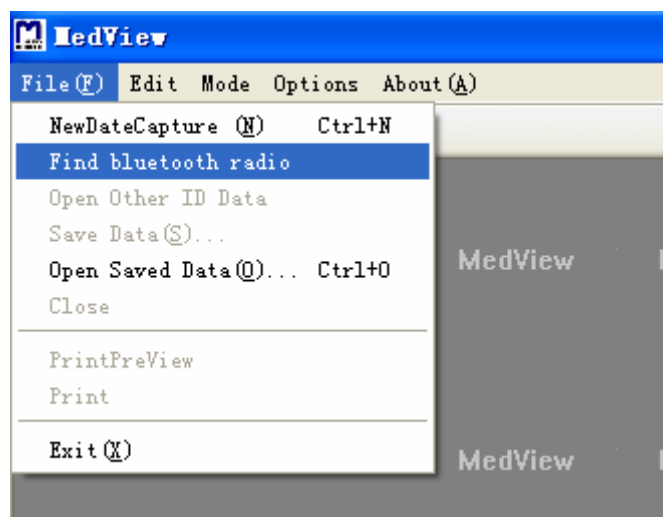
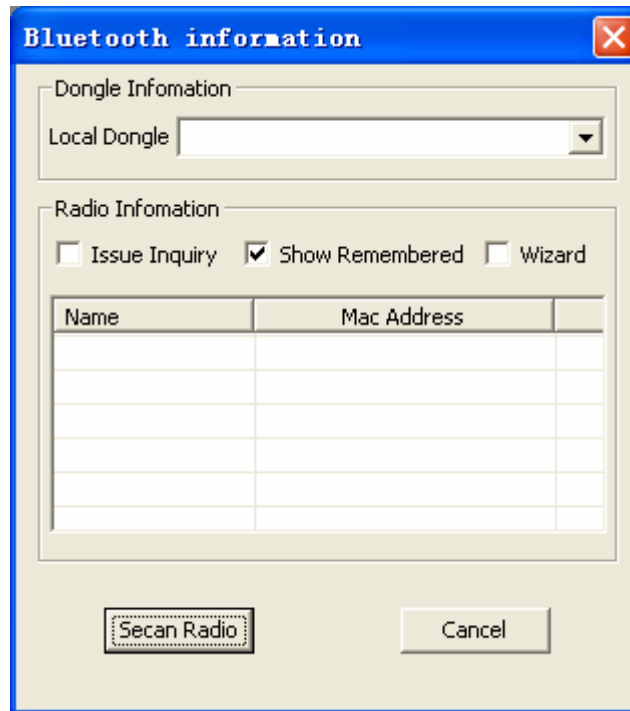
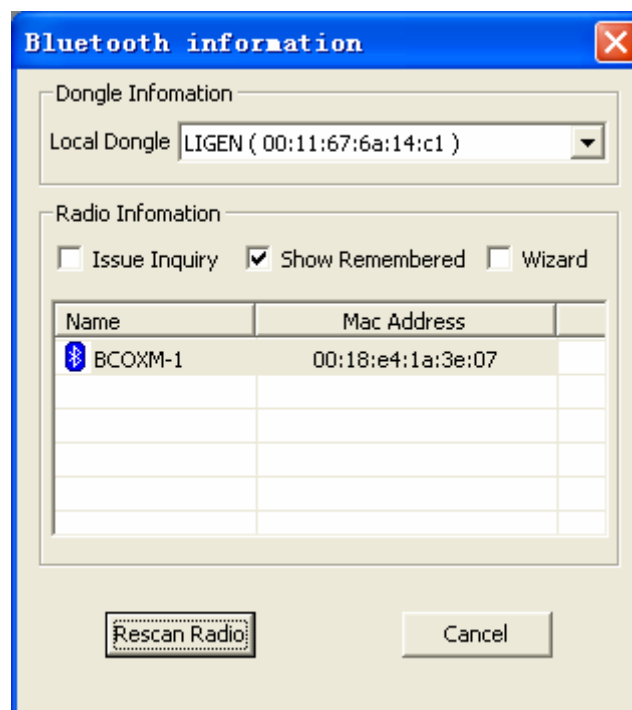

Figure 3-18
Figure 3-19
Figure 3-20
3.4.2 Click “Find Bluetooth® radio” item in the interface as shown in Figure 3-18. Then click “Scan Radio” button in the interface as shown in Figure 3-19 to search Bluetooth® devices.
(1). Select “Show Remembered” in the interface as shown in Figure 3-19, then click “Scan Radio” or “Rescan Radio”, as shown in Figure 3-20.